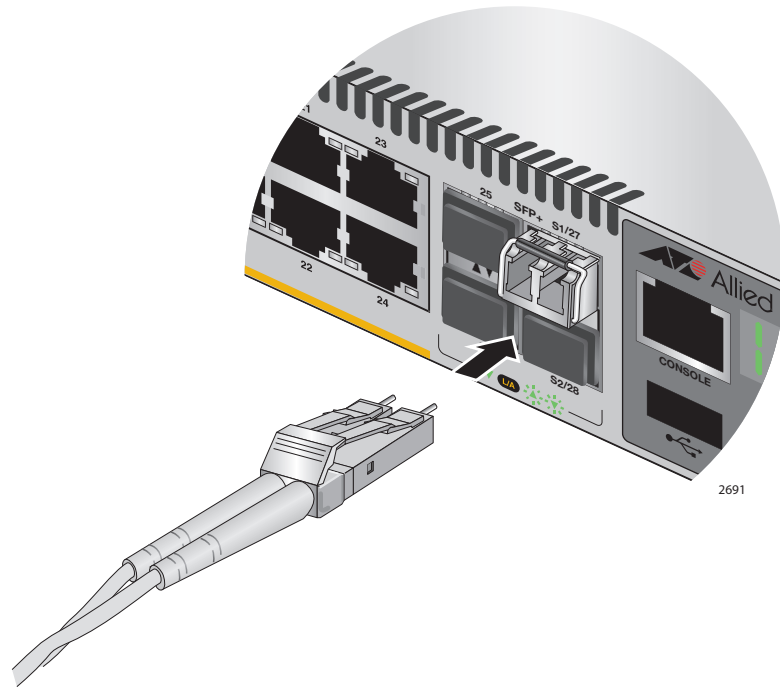

Figure 64. Connecting the Fiber Optic Cable to the Stacking Transceiver
6. Connect the fiber optic cable to the transceiver, as shown in Figure 64 on page 102. The connector on the cable should fit snugly into the port, and the tab should lock the connector into place.